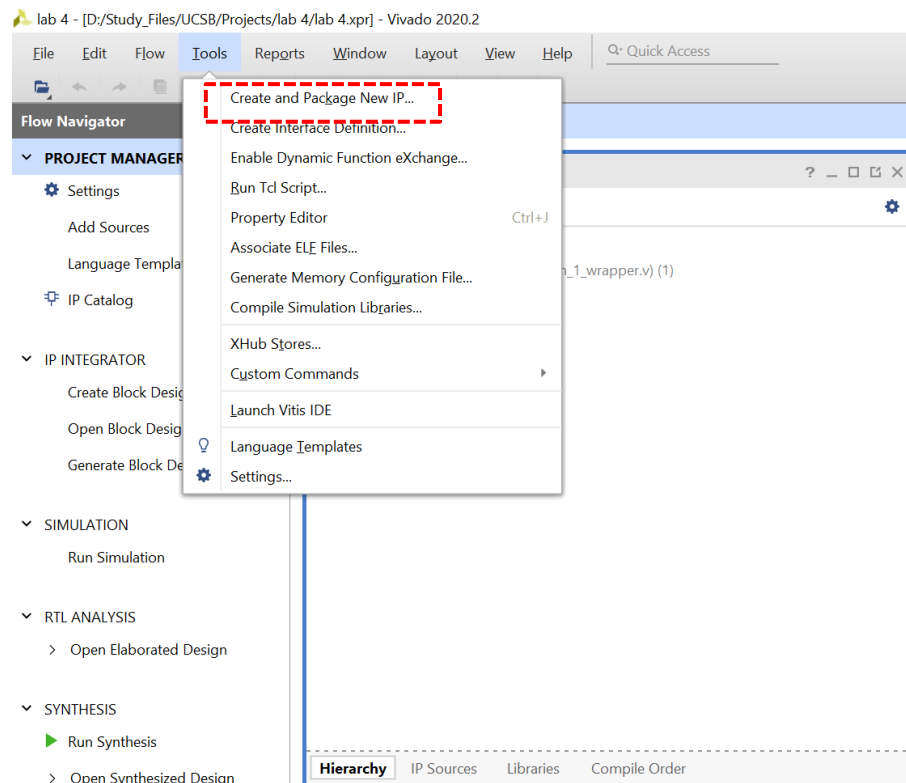

Figure 1: Create a new AXI peripheral.
- 1) As in Figure 1, under “Tools”, select “Create and Package New IP”. Click “Next”. In the next popped window, choose “Create a new AXI4 peripheral” and click “Next”. Set a proper name for your IP, “myspi” is recommended.